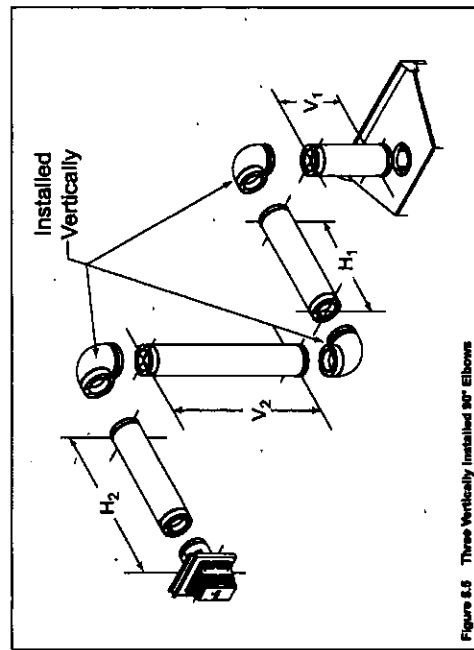

Figure 5.8 Three Vertically Installed 90° Elbows
See Figure 5.8 for information about installing elbows horizontally.
- Using the screws removed, install baffle according to your installation requirements. See Figures 5.8 and 5.9.